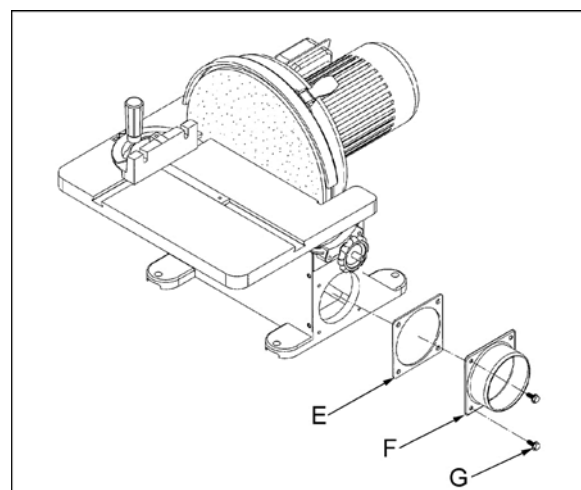

Figure 3
7. Place the gasket (E, Figure 3) against the sander base and mount the inlet port (F, Figure 3) to the sander with *four* M6x16 hex cap bolts (G, Figure 3).